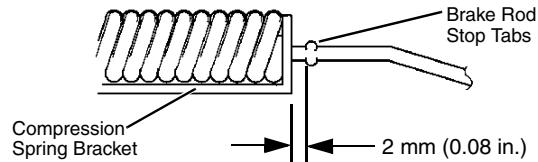

FIG. 28
- Refer to FIG. 28. Measure distance from inside of brake rod stop tabs to outside of compression spring bracket (located below foot tread area on L.H. side of transmission). Distance should be **2 – 10 mm (0.08 – 0.40 in.)**.